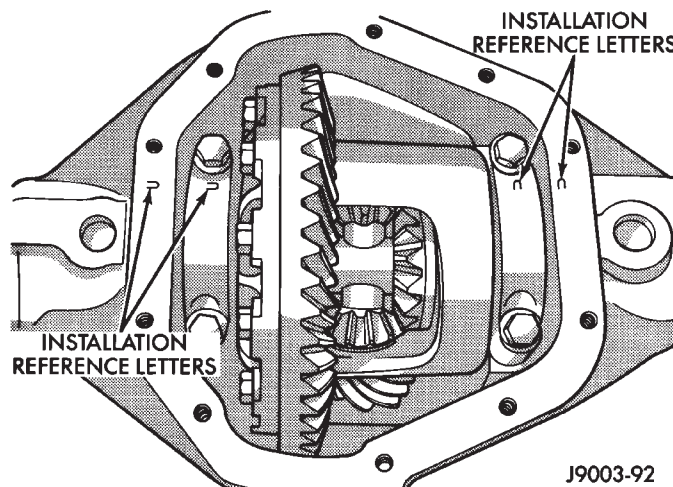

Fig. 29 Bearing Cap Identification
(1) Remove axle shafts.
(2) Note the orientation of the installation reference letters stamped on the bearing caps and housing machined sealing surface (Fig. 29).